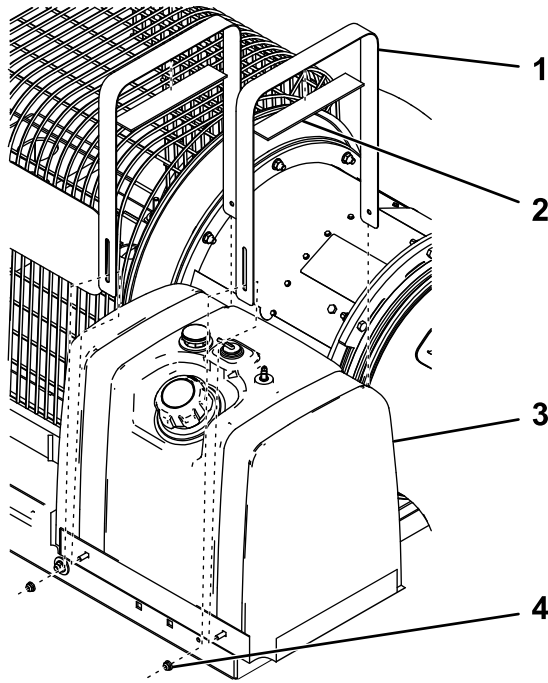

Figure 6
- Attach the pads to the fuel-tank straps (Figure 6).
- Secure the new fuel tank to the fuel-tank tray using the straps and 4 flange nuts (1/4 inch) as shown in Figure 6.